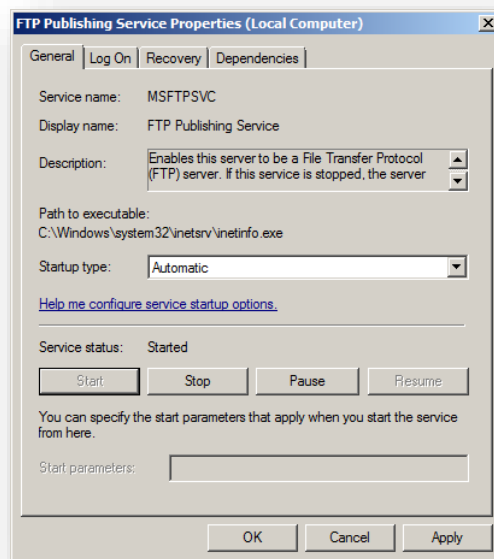

Figure 12 – FTP Publishing Service Properties
20. Verify that the FTP Publishing Service Properties window resembles Figure 12 and click **OK**.